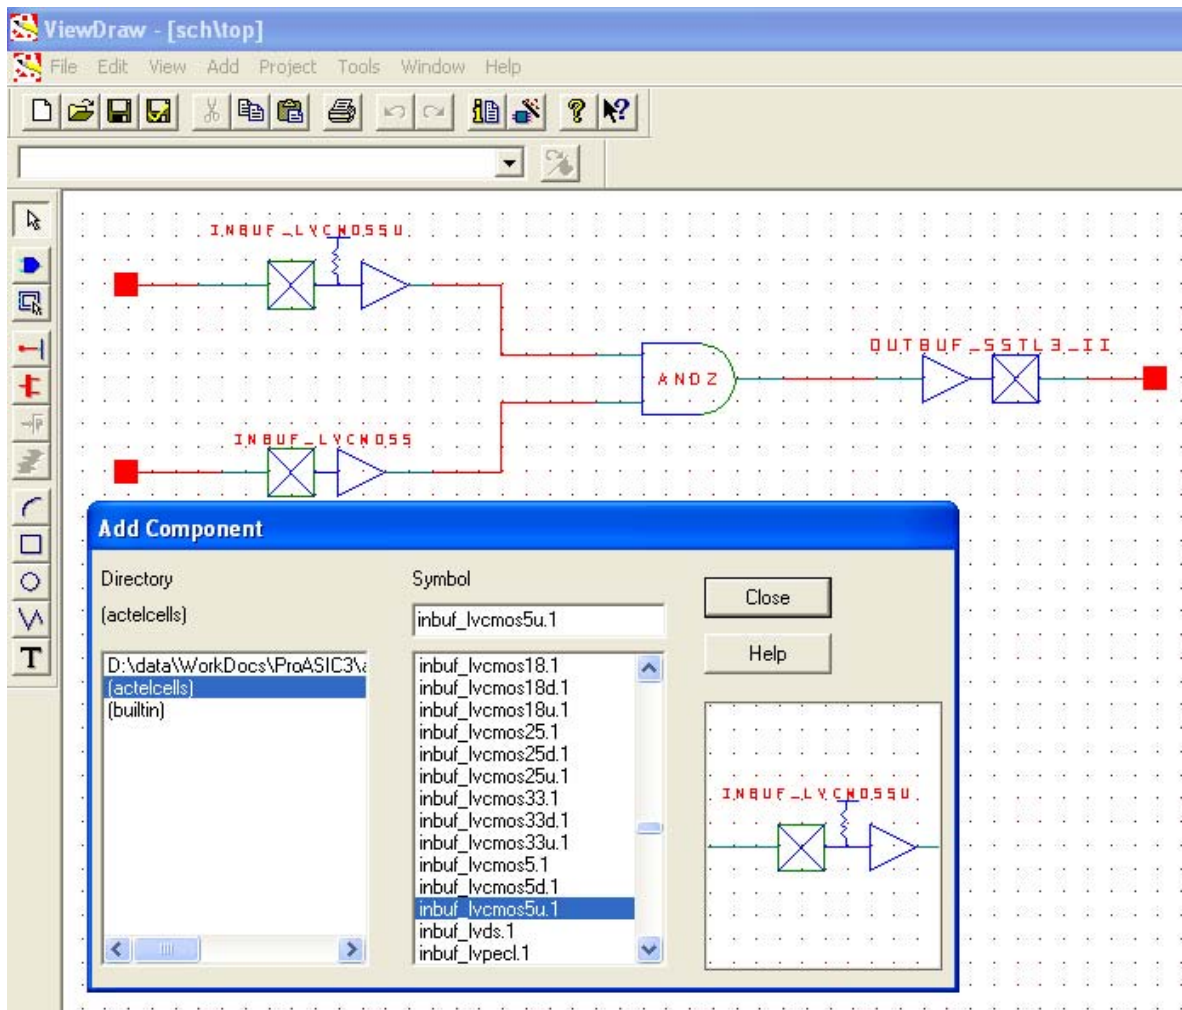

Figure 8-5 • I/O Buffer Schematic Cell Usage
- Enter a name for the macro. Click **OK**. The core will be generated and saved to the appropriate location within the project files (Figure 8-5 on page 191).
Libero SoC software includes the ViewDraw schematic entry tool. Using ViewDraw, the user can insert any supported I/O buffer cell in the top-level schematic. Figure 8-5 shows a top-level schematic with different I/O buffer cells. When synthesized, the netlist will contain the same I/O macro.